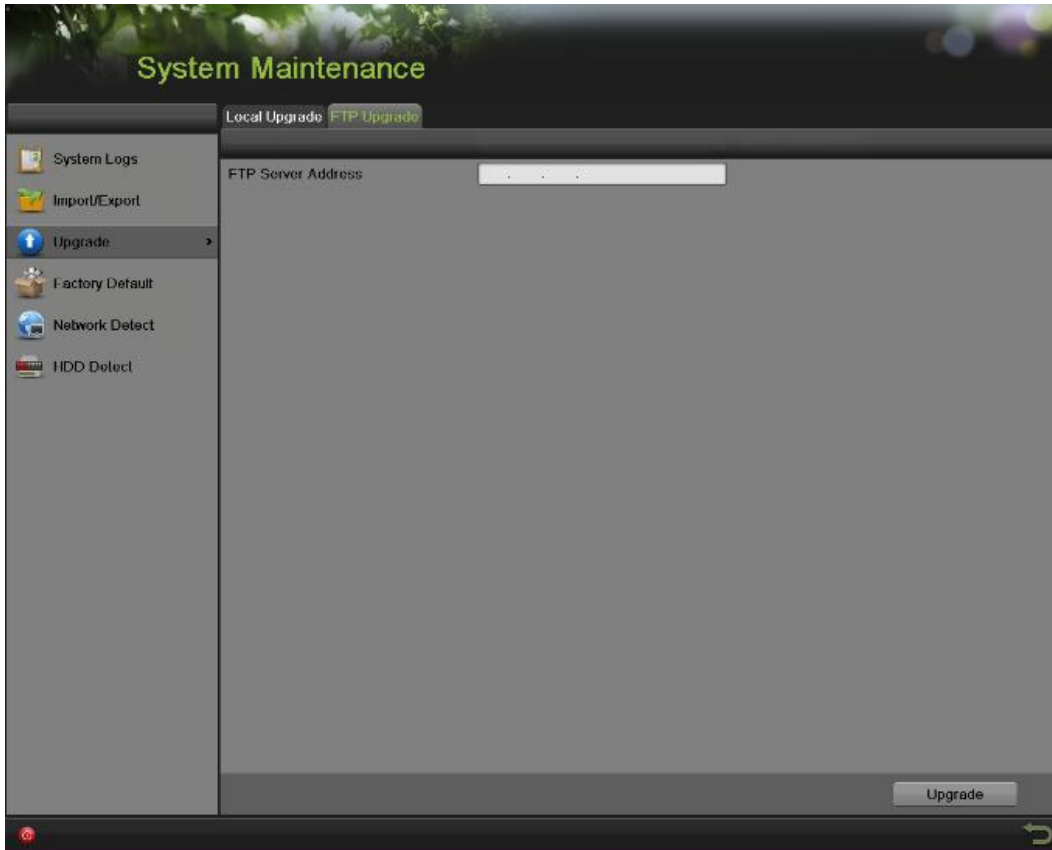

Figure 170 FTP Upgrade Menu
2. Select the FTP Upgrade tab, as shown in Figure 170.